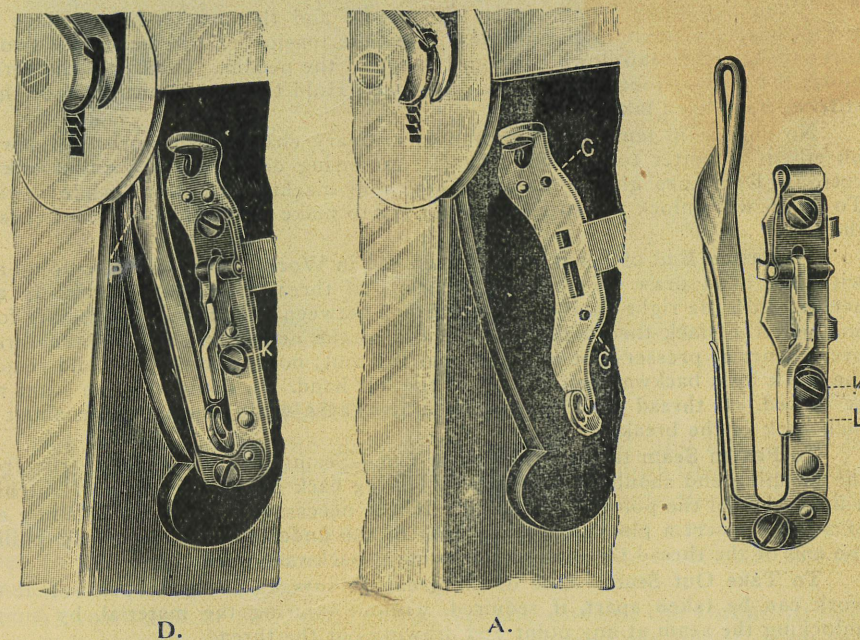

Fig. 29.
Note.—The point P, Fig. 29 (D), of looper should be about as close to the race as it can be without touching—about the thickness of this paper. The looper is carefully adjusted to carrier at the factory, but if it becomes necessary to adjust the point of the looper, this can be done while looper is fastened in carrier. Loosen screw K, Fig. 29, when point of looper may readily be moved nearer to or farther away from race.